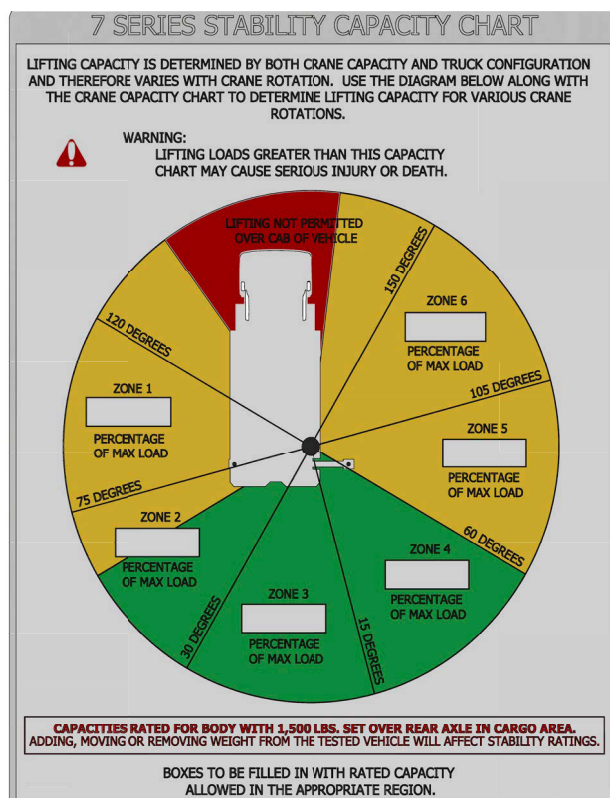

Figure 1-2.
2. Place crane in the Zone 1 position (see Figure 1-2).
4. If the crane is stable with full extension, 100% can be written in the data box for Zone 1 (see Figure 1-2).
8. Record the percentage of rated capacity in the data box for Zone 1 (see Figure 1-2). This is the revised load capacity for this zone due to stability of the service truck.